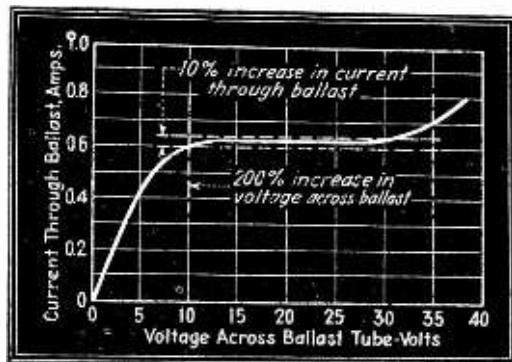

Fig. 2. Characteristics of a typical ballast tube.
In Fig. 2, the characteristics of a typical ballast tube are illustrated. Fundamentally, the ballast tube consists of iron wire sealed in a glass envelope containing hydrogen or helium. Its regulatory action is based on (1) the high tempera-